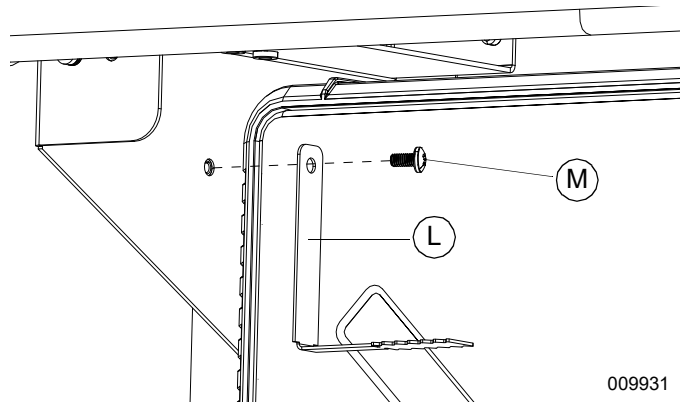

Figure 4-22. Installing Top Grounding Tabs
3. See Figure 4-22. Install grounding tabs (L) at the top of the module on both sides.
4. Fasten each grounding tab with a M4x8 mm SEMS screw (M) and torque to 13 in-lb (1.47 Nm).